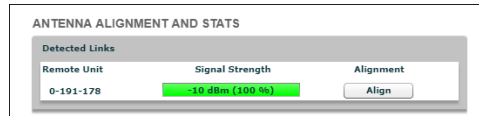

Figure 20. Configurator GUI (Antenna alignment and stats dialog)
- The **ANTENNA ALIGNMENT AND STATS** window will be shown (Figure 20 (page 50)).